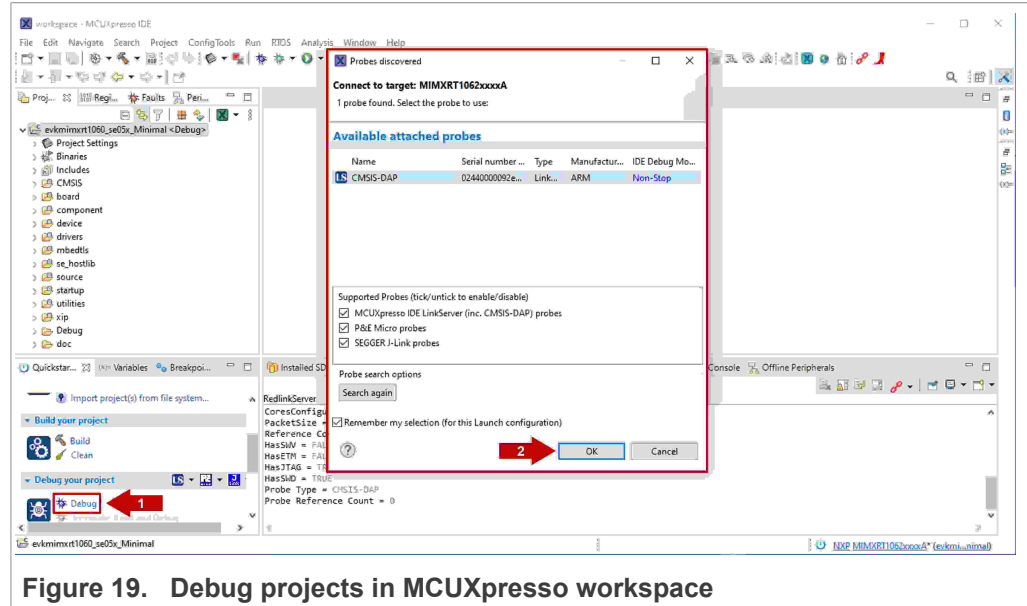

Figure 19. Debug projects in MCUXpresso workspace
- Go to the MCUXpresso Quickstart Panel and click on the *Debug* button as shown in Figure 19. If there is more than one probe attached, you have to select the CMSIS-DAP debug probe from the list. Wait a few seconds until the project executes.